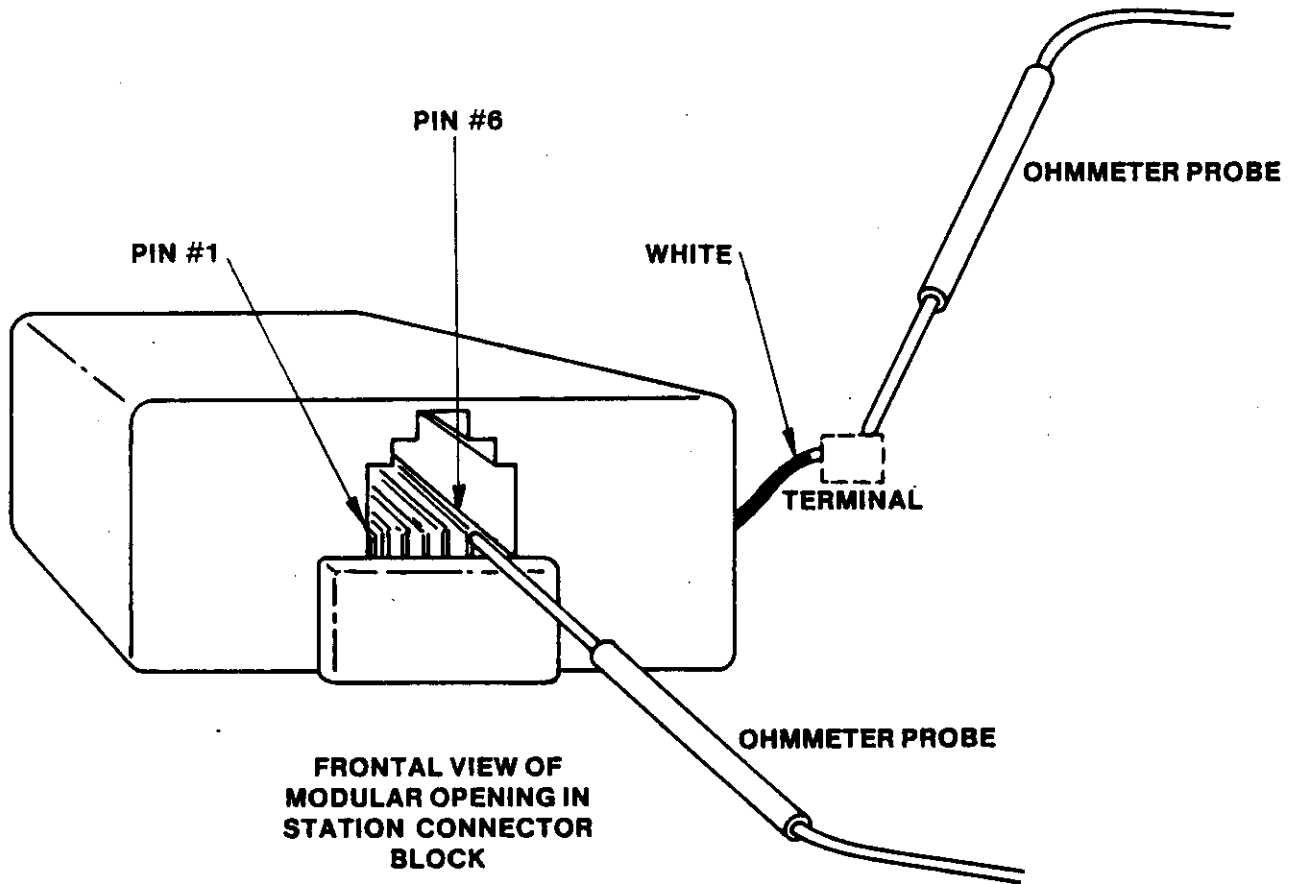

FIGURE 3—VERIFICATION OF CONNECTOR BLOCK WIRING
3.5.1 Different makes of modular connector blocks have the white and blue wires reversed. The following chart shows the proper connection of the three most popular models. Other manufacturer's models should be checked with an ohmmeter as shown in Figure 3 to verify which lead represents pin #1 and which lead represents pin #6, and connected accordingly.